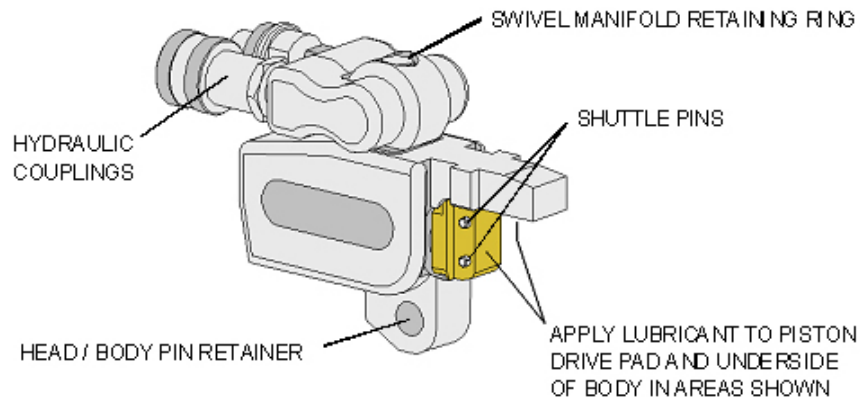

Figure 5. TWLC Hydraulic Torque Wrench Maintenance
2. See Figure 5. Remove the drive head from the body. Inspect the following components:
3. See Figure 5. Lubricate the areas of the body using Revol R5 Moly Anti Seize. The drive head should be reassembled onto the body for storage to prevent debris from getting into the drive mechanism.